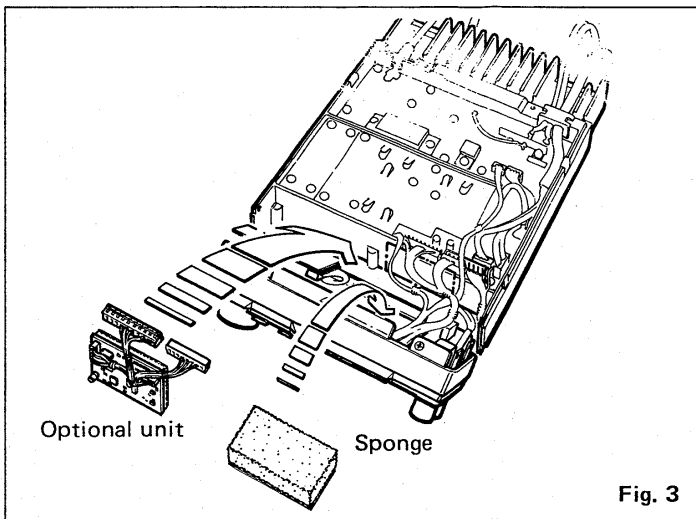

Fig. 3
3) Adhesive tape is applied to the sponge on the back of the optional UT-28 or UT-29 unit. Peel the protective paper from the sponge and attach the unit in the position shown in Fig. 3.
4) Peel the protective paper from the sponge that comes with IC-1200A/E, and attach the sponge to the IC-1200A/E in the position shown in Fig. 3.